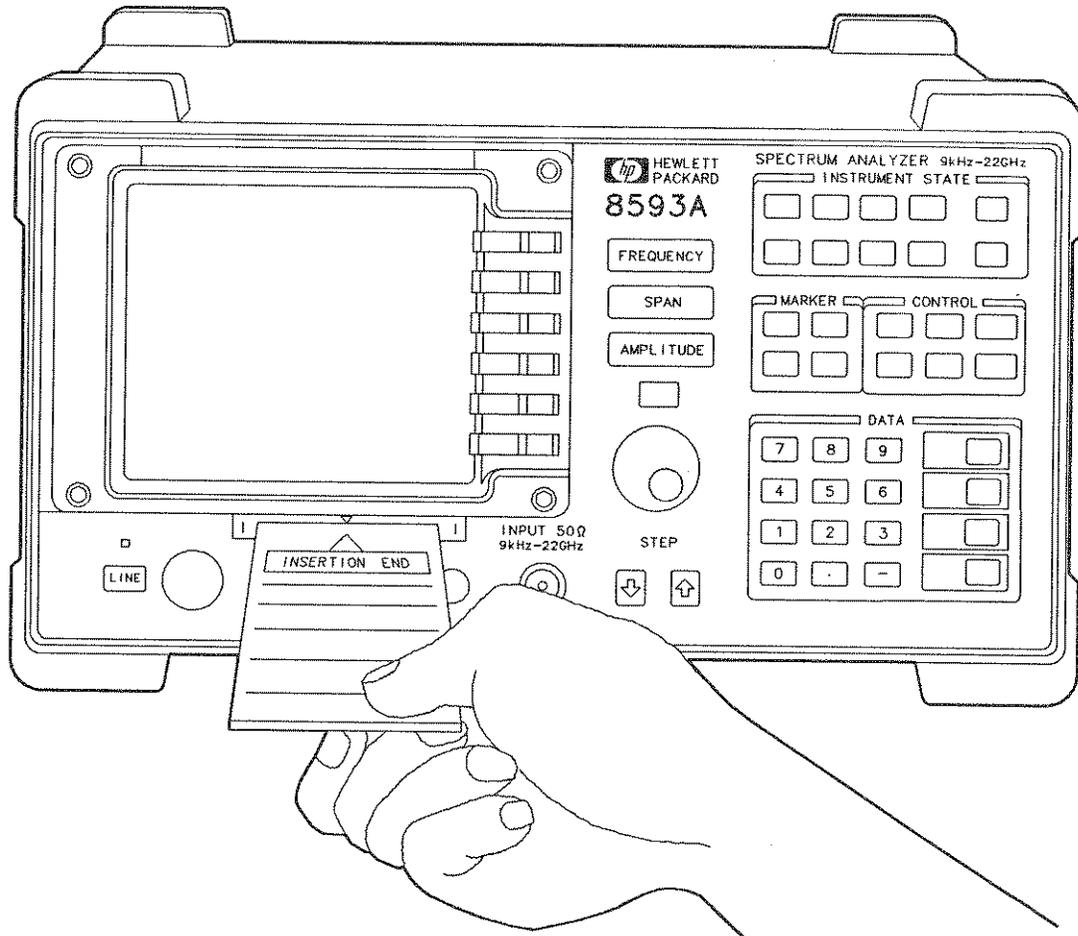

Figure 2-5. Inserting the Memory Card
2. Insert the card with its arrow matching the raised arrow on the bezel around the card-insertion slot. See Figure 2-5.